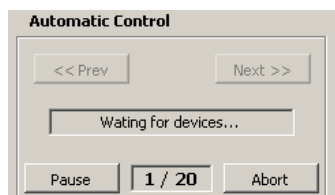

Figure 2.14.4: **Automatic Control** mode in prescan stage
- Wait until the prescan is complete, this will take a few minutes depending on how many arrays are being utilised, during this time you can pause or abort. (See Figure 2.14.4)